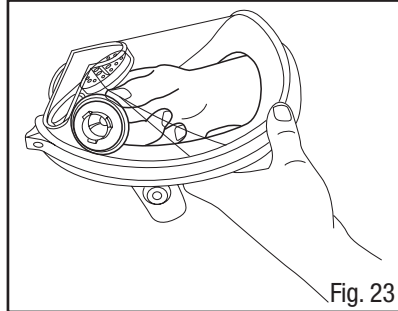
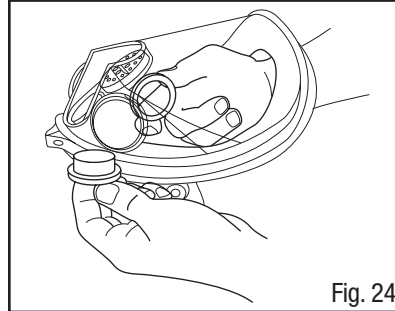

Fig. 23
Fig. 24
2. Remove bayonet ring by rotating counter clockwise 1/4 turn (Fig. 23).
3. Remove bayonet from lens assembly (Fig. 24).
5. Remove bayonet assemblies by rotating bayonet rings counter clockwise 1/4 turn (Fig. 23) and removing bayonets from the lens assembly (Fig. 24).